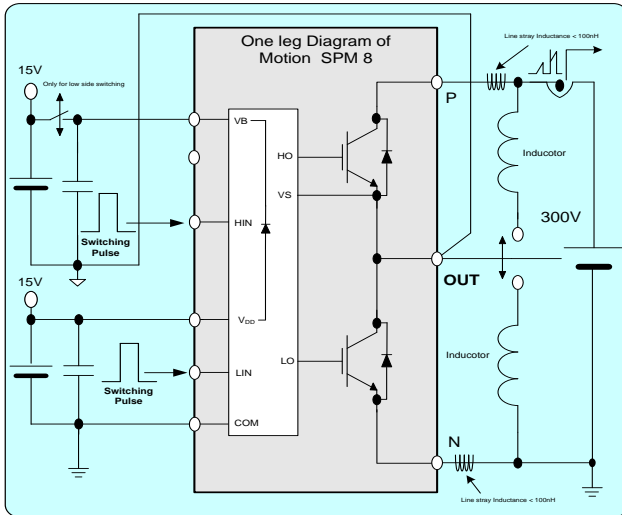
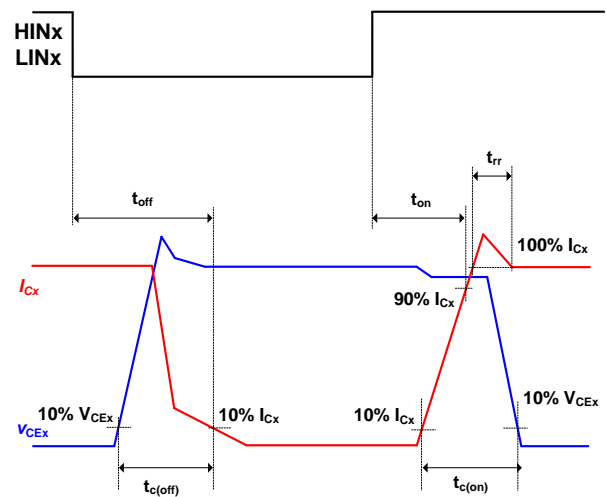

Figure 6. Switching Evaluation Circuit
Figure 7. Switching Time Definition
5. tON and tOFF include the propagation delay of the internal drive IC. tC(ON) and tC(OFF) are the switching times of the IGBT itself under the given gate driving condition internally. For the detailed information, see Figure 6 and Figure 7.